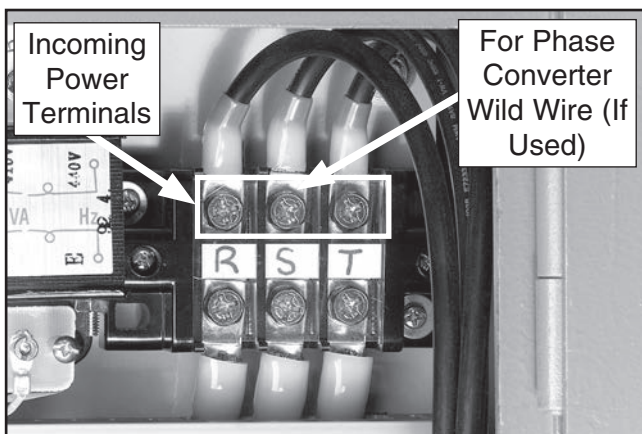

Figure 19. Terminal locations to connect incoming power wires.
4. Connect incoming power wires to top R, S, T terminals shown in **Figure 19**.
For safety reasons, the saw blade must be removed before the saw is test run to ensure the wiring is not reversed at the main terminal (**Figure 19**). If the wiring is reversed, the saw arbor and the conveyor track will run in the wrong direction.